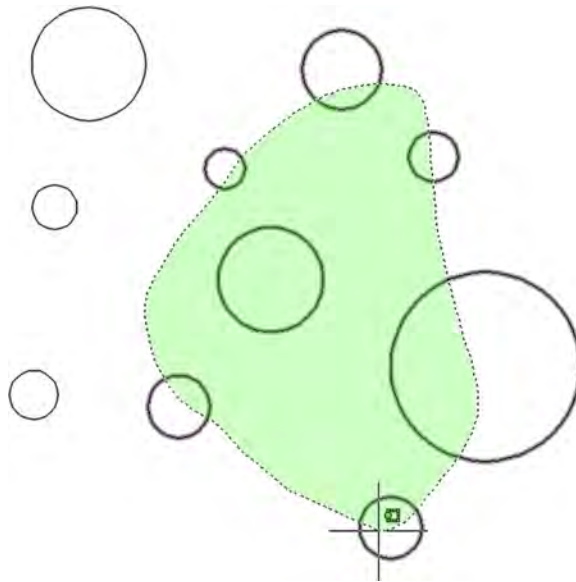

FIGURE 1.33
- Step 1.** Draw another set of circles, as seen in Figure 1.33, or just undo your previous steps.
- Step 3.** Do not type anything in, rather *press and hold down* the left mouse button, and drag it to the *left* (thus making it a *Crossing Lasso*) around several of the circles, as seen in Figure 1.33.